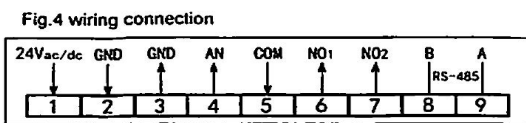

Fig.5 LCD display
- ◆ Turn on the power, a red spotlight at lower position on the cover can be seen, meanwhile the LCD screen activated in green. The measured temperature and the relative humidity displays on the upper line of the LCD and the second line is the ozone level. See the fig.5